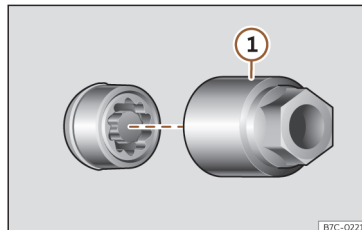

Fig. 199 Anti-theft wheel bolt with cap and adapter.
- Insert the special adapter >>> Fig. 199 ① (vehicle tools >>> page 266) onto the anti-theft wheel bolt and push it on as far as it will go.